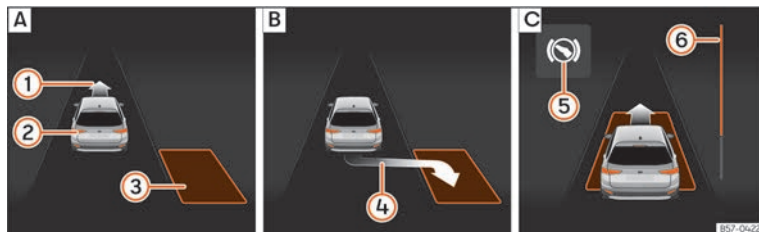
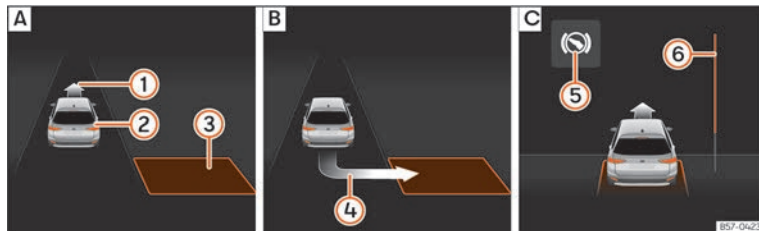

Fig. 126 On the instrument cluster display: parallel parking. **A**: Finding a parking space **B**: Parking position. **C**: Manoeuvring.
Fig. 127 On the instrument cluster display: angle parking. **A**: Finding a parking space **B**: Parking position. **C**: Manoeuvring.
- Look at the instrument cluster screen to see if the space has been detected as “appropriate” and if the correct position for parking has been reached » Fig. 126 **B** or » Fig. 127 **B**. The space is considered “appropriate” if the instrument cluster display shows the parking indication ④.
- Reverse until the continuous ParkPilot signal sounds; **OR:** reverse until the indication to move forward appears on the instrument panel display >>> Fig. 126 [C] or >>> Fig. 127 [C]; **OR:** reverse until the **Park Assist finished** message appears on the instrument cluster display. The progress bar [6] indicates the distance to cover.
- Move forward until the continuous ParkPilot signal sounds; **OR:** move forward until the reverse indication appears on the instrument panel display. The Park Assist system steers the vehicle forward and back until it centres it in the space >>> Fig. 126 [C] or >>> Fig. 127 [C].
The progress bar >>> Fig. 126 [6] and >>> Fig. 127 [6] on the instrument cluster display shows the relative distance to be covered as a symbol. The greater the distance, the fuller the progress